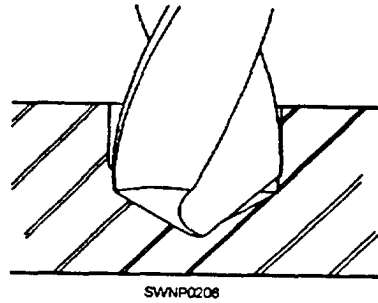

Figure 12-20.—Unequal drill point angles.
2. **LENGTH AND ANGLE OF LIPS.** The material to be drilled determines the proper point angle. The angles, in relation to the axis, must be the same. Fifty-nine degrees has been found satisfactory for most metals. If the angles are unequal, only one lip will cut and the hole will be oversize (fig. 12-20).